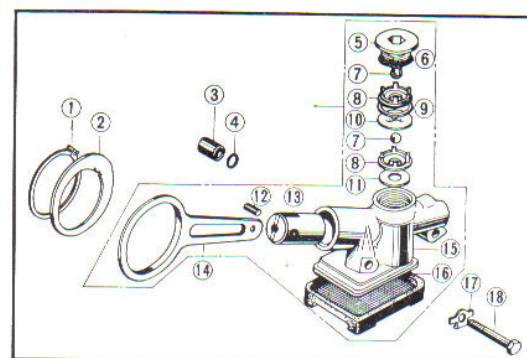

Fig. 3.83 Oil pump exploded view
- Before installing the oil pump, check to make sure that the 8×15 O ring install around the pin at the pump is not missing or damaged. (Fig. 3.83)